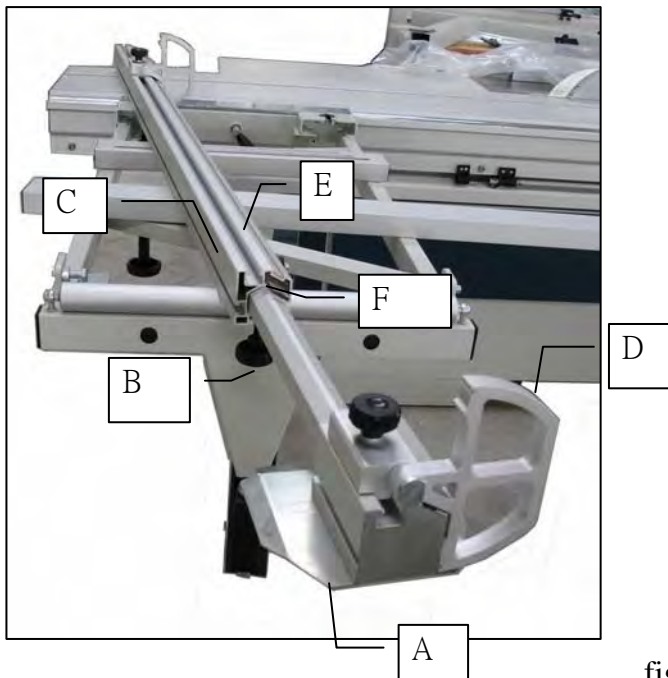

fig 4-8.2
- Lock stop G(fig 4-8.2) on the rule at given measure, so that the panel may be cut.
For cutting panels of width exceeding 1860mm, you have to use the extension part A(fig 4-8.2) by loosening knob B(fig 4-8.2)
- Move extension part A(fig 4-8.2) , so that it touches fixed part C(fig 4-8.2)
- Take the measure corresponding to internal edge of stop D(fig 4-5.8) on millimeter rule E(fig 4-8.2) , so that point F(fig 4-8.2) indicates the same measure
Everytime while using extension part for cutting large panels , point F(fig 4-8.2) indicates the measure.